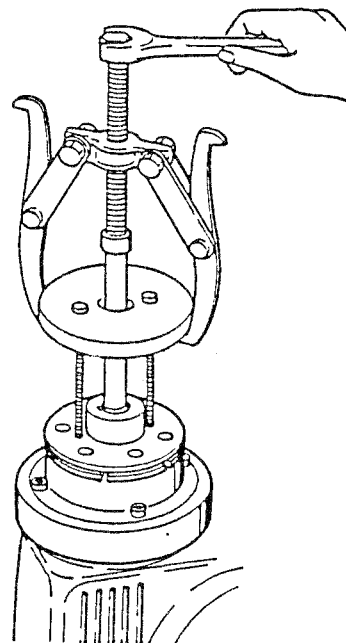

Fig. 12
(10) If the gap is too narrow, use the threaded hole in armature gap (16) to attach the plate, and draw out the puller until the gap is at specified value. (Fig. 12)